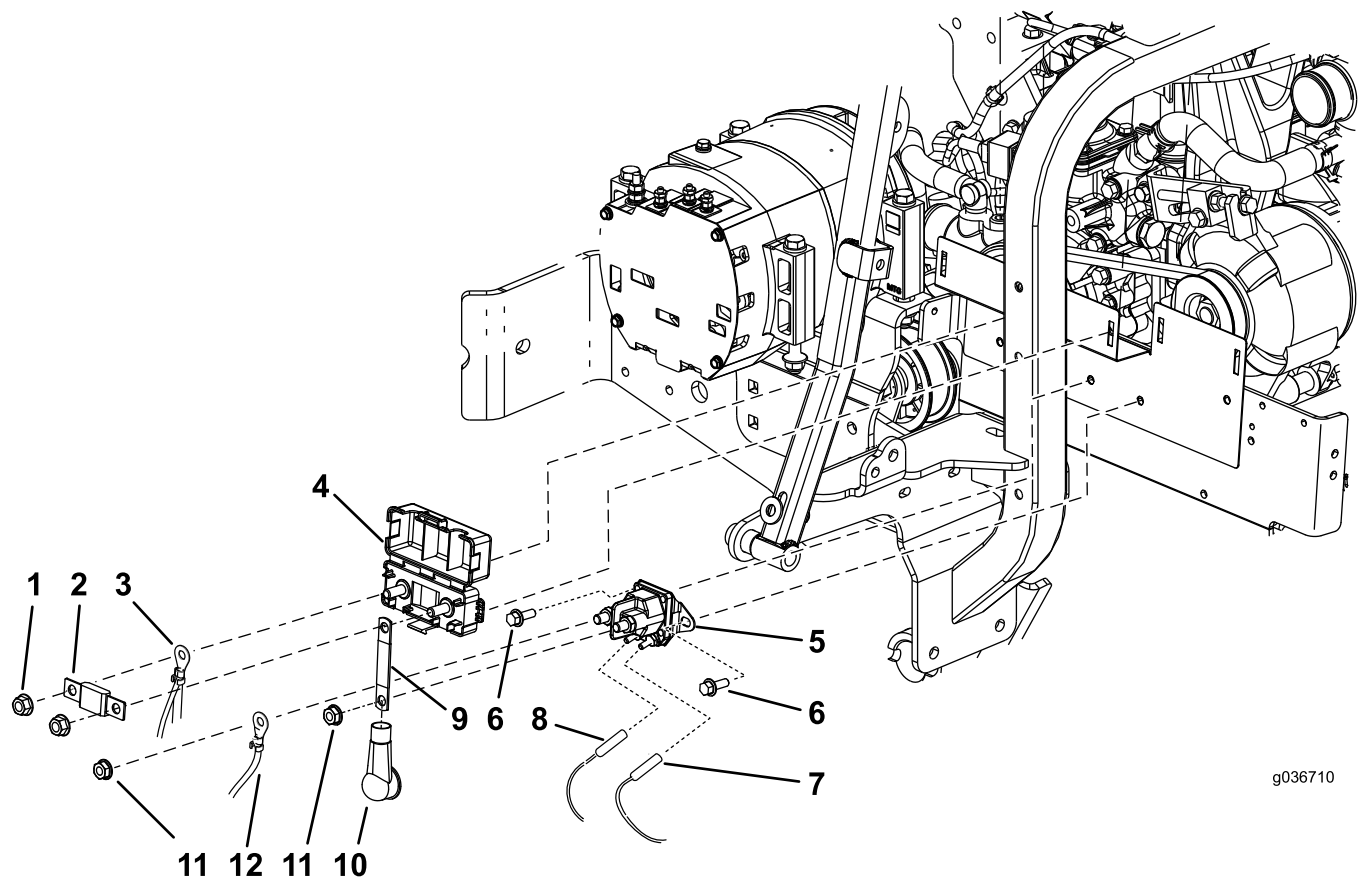
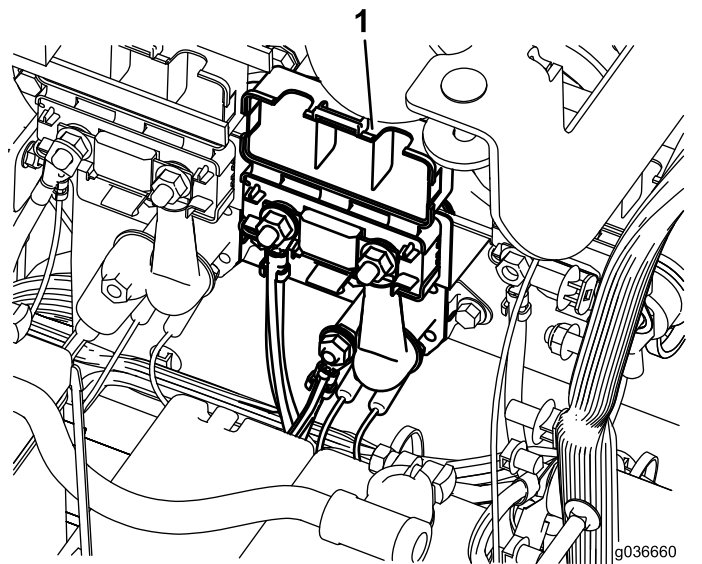

Figure 5
Figure 6
4. Install the red insulator onto the jumper strap (Figure 5).
5. Install the jumper strap onto the fuse-holder right post (Figure 5).
6. Install the double-red wire connector onto the fuse-holder left post (Figure 5).
9. Slide the red insulator over the jumper strap (Figure 5 and Figure 6).
10. Install the yellow-wire ring connector to the left-solenoid post with a flange nut (5/16 inch) as shown in Figure 5.
11. Install the pink-wire connector (coil + cab contactor) to the left post at the bottom of the solenoid (Figure 5).
12. Install the black-wire connector (coil - cab contactor) to the right post at the bottom of the solenoid (Figure 5).